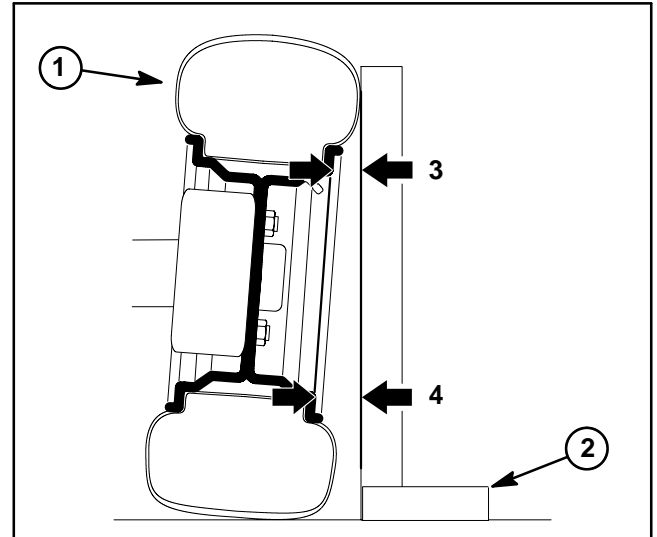
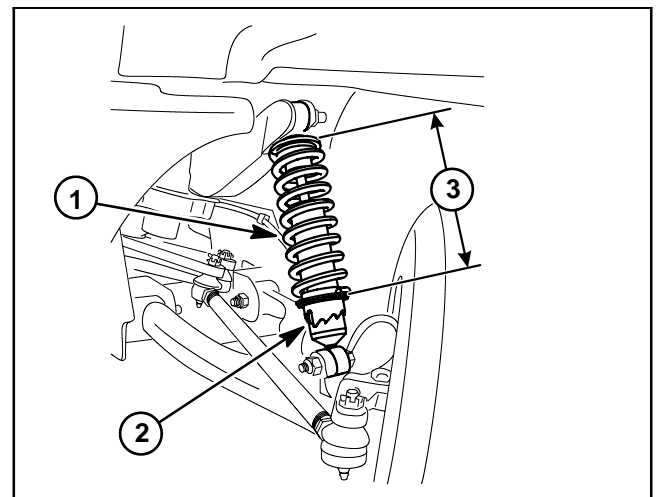

Figure 2.1
Figure 2.2
- A. Place a 90° square on the ground with the vertical edge touching the face of the tire (Fig. 2.1).
- B. From the same part of the rim, measure the distance from the top and bottom of the rim to the square. Record the two (2) measurements.
B. Use spanner wrench (TOR6010: see Special Tools in this chapter) to rotate shock absorber collar which changes the length of the shock spring (Fig. 2.2). If the bottom camber measurement was too short, rotate the collar to reduce the length of the shock spring. If the bottom camber measurement was too long, rotate the collar to increase the length of the shock spring.